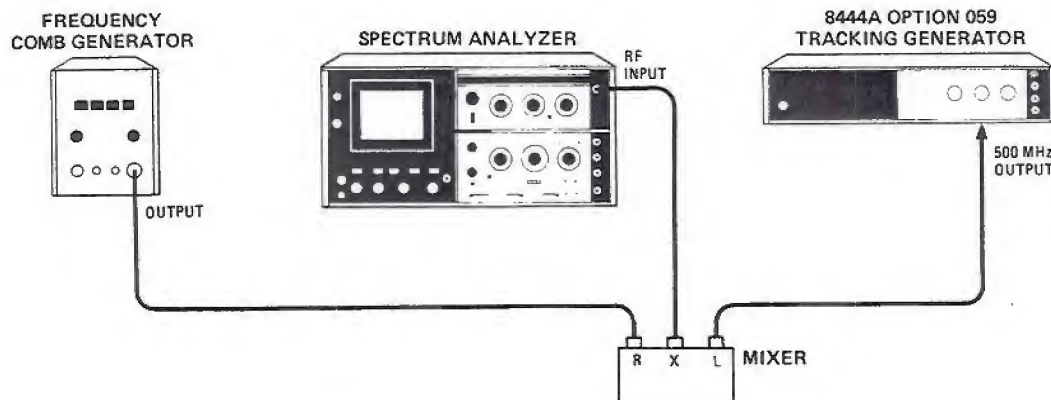

Figure E-3. 500 MHz L.O. Residual FM Check Equipment Setup
1. Connect equipment as shown in Figure E-3.